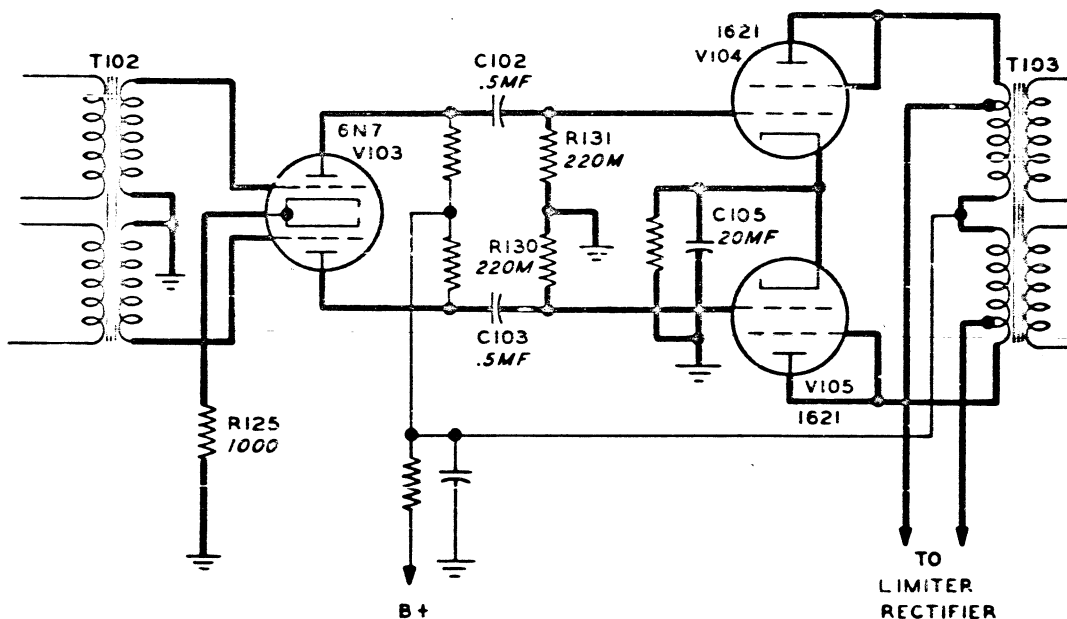

Figure 2-4. Output Amplifier Circuit
d. OUTPUT AMPLIFIER STAGES. - Refer to Figure 2-4. An interstage transformer, T102, couples the limiter to an interstage voltage amplifier using a 6N7 tube, V103. Bias for this stage is obtained by means of a voltage drop across resistor R125 in the cathode circuit.